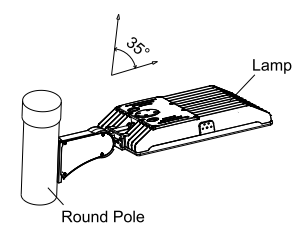

Figure 15
Step 2: Fix the direct bracket to the square pole with bolt. Connect the power cable to the pole cable, make sure good protection on the wire connection, and put the wire in the direct bracket; close the side lid and tighten it, (Figure 15) then finish installation.
Notice: Adjustable angle is 0~35° (Figure 15)